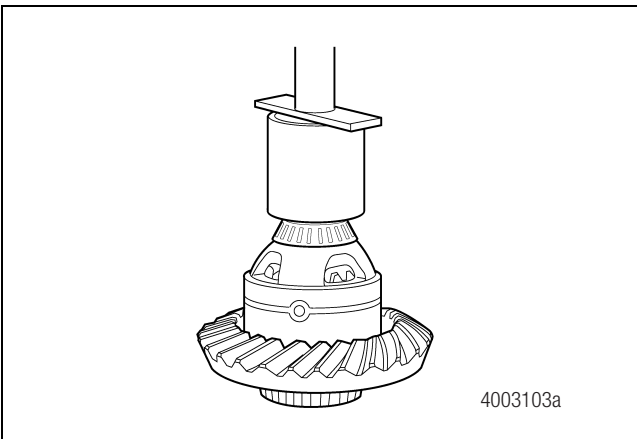

Figure 4.22
1. Use a differential bearing cone driver, tool drawing number 5030, or a sleeve to press the bearing cones on the differential case. Figure 4.22. Refer to Section 8, Figure 8.5, for instructions to build the tool.